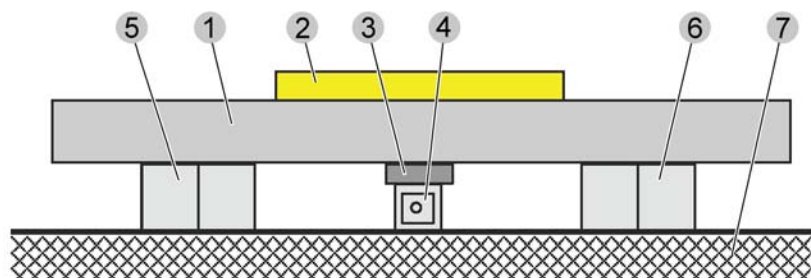

Fig. 9 Arrangement for leveling the machine feet
- Use a straight edge or similar and a precision spirit level to check the levels of the machine feet. → **Fig. 9**